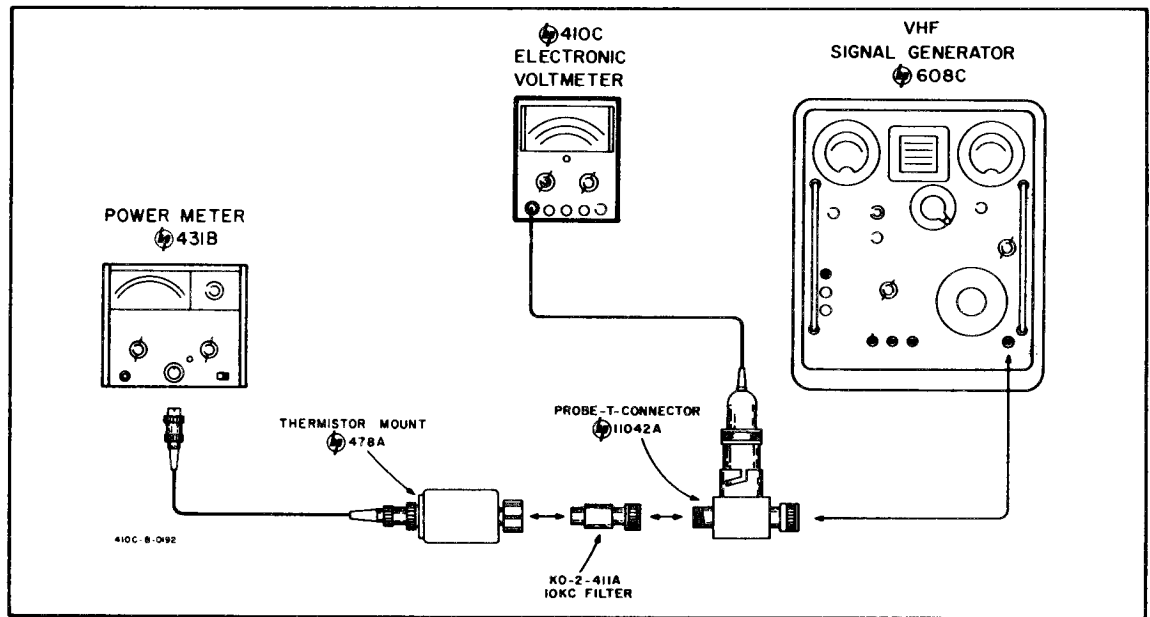

Figure 5-3. High Frequency Response Test
- a. Figure 5-3 describes the test arrangement required for this operation. Do not place Model 410C AC Probe in T-Connector at this point.
- A Frequency Response Test Set (Model 739AR), a Test Oscillator (Model 651A), an RF Signal Generator (Model 608 C), a Power Meter (Model 431 B), a Thermistor Mount (Model 478A), a Probe - T - Connector (Model 11042A), a VHF Signal Generator (Model 612A) and a 10 KC Filter (Model K02-411A) will be required for this operation. Figure 5-3 and 5-4 describe the arrangement to be
h. To check Model 410C frequency response from 10 Mc to 480 Mc, use arrangement described in Figure 5-3.